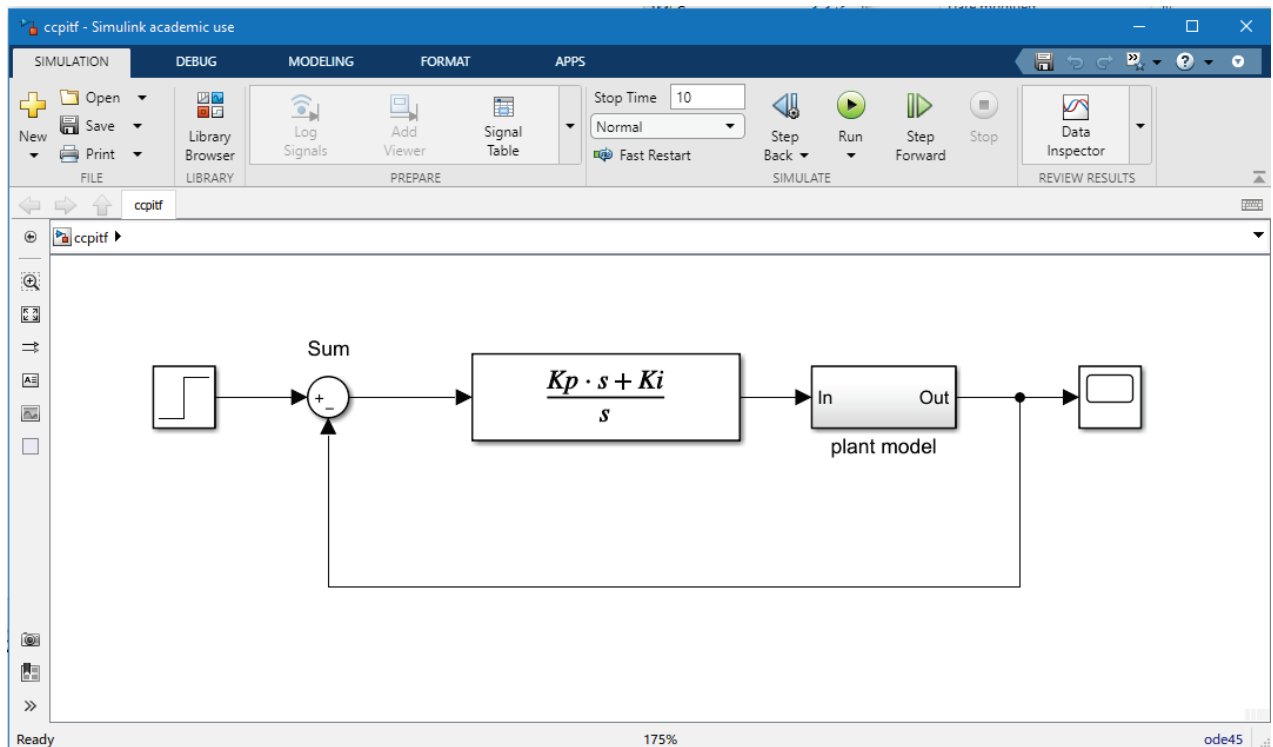

Figure 3.3 Simulink model ccpitf.slx
- Q38(c)** The overall control system model file as in Fig. 3.3 (ccpitf.slx)